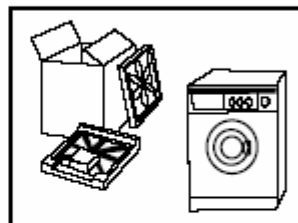

Fig. 1
- Remove all the packing materials to prevent vibration during use. Upon opening of the package, water drops may be seen on the plastic bag and the porthole. This is normal phenomenon resulting from water test in the factory, as shown in Fig 1.